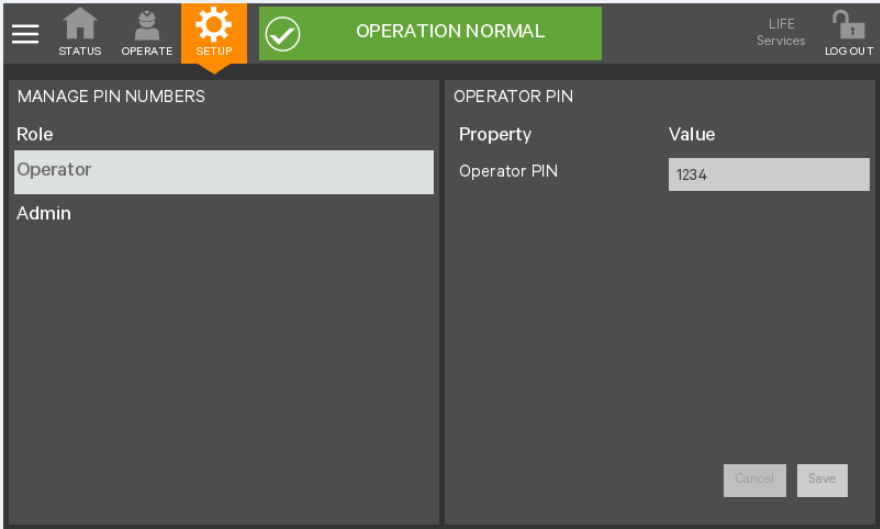

Figure 5-13 Setting password
3. Refer to Figure 5-13, set password changing.